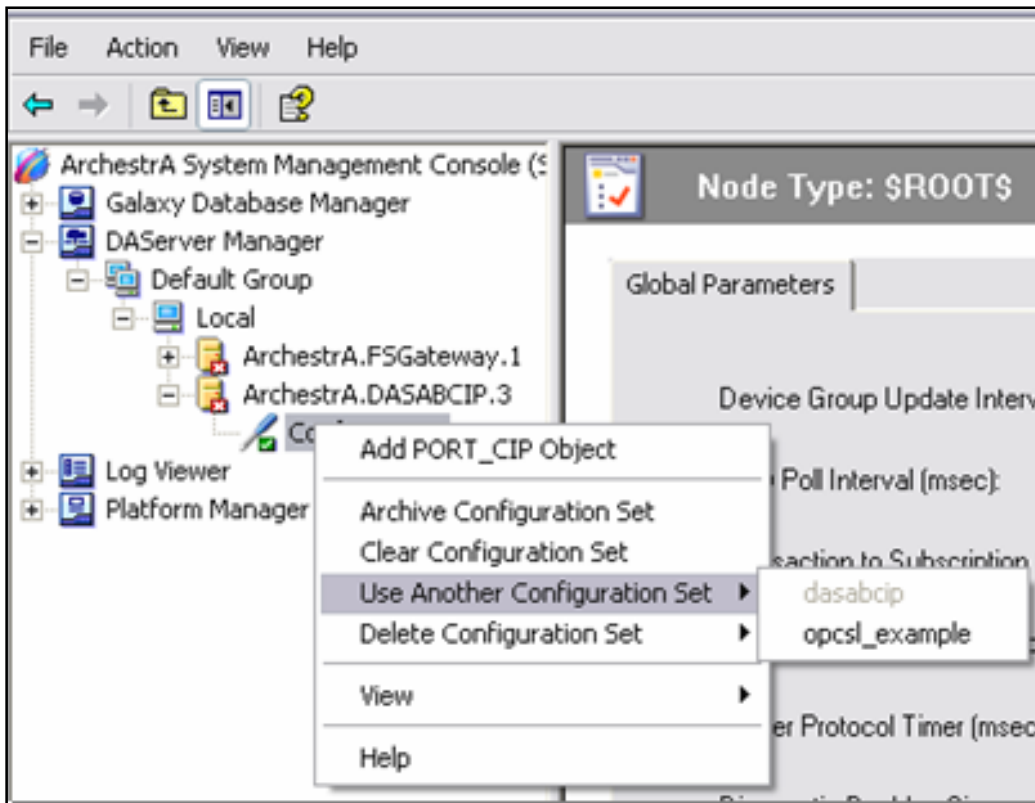

Figure 20: Other Configuration Set
3. Right-click **Configuration** and select **Use Another Configuration Set**, then **opcsl_example** (Figure 20 below).